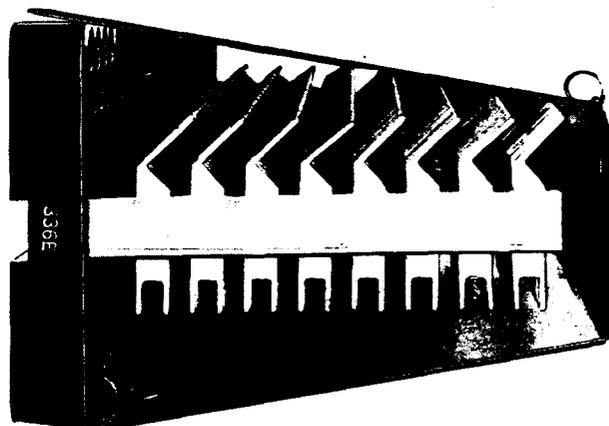

Figure 69—KS-20107 and KS-20108 Terminal Strip Guards
8.02 The KS-20107 guard (Figure 69 and Table Z) is a flame-resistant, rectangular clear plastic cover used to protect wire-wrap terminations on the cross-connect side of horizontally mounted 336-type terminal strips. The guard is furnished with two KS-20309 L1 hinges that fasten to the terminal strip front barrier guard with screws provided.
8.03 The KS-20108 guard (Figure 69 and Table Z) is a flame-resistant, rectangular clear plastic cover used to protect the bottom (cable side) of horizontally mounted 336-type terminal strips. The guard provides